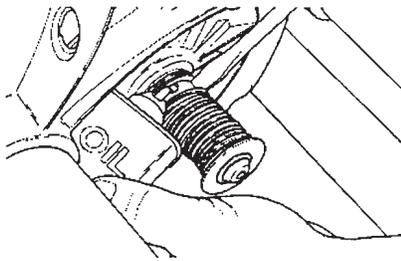

Figure D-3
6. To oil the lower floating sheaves, rotate the main spindle by hand until you find the hole in its sleeve. This hole may be difficult to find because of the spring that fits over the sleeve. When you find the hole, spread the coils of the spring over the hole with a large blade screwdriver. Then apply 2-5 drops of oil in the hole, as shown in Figure D-3. (You can also accomplish this by oiling the shaft directly. With a screwdriver push the spring back towards the sheave and apply 2 - 5 drops of oil.